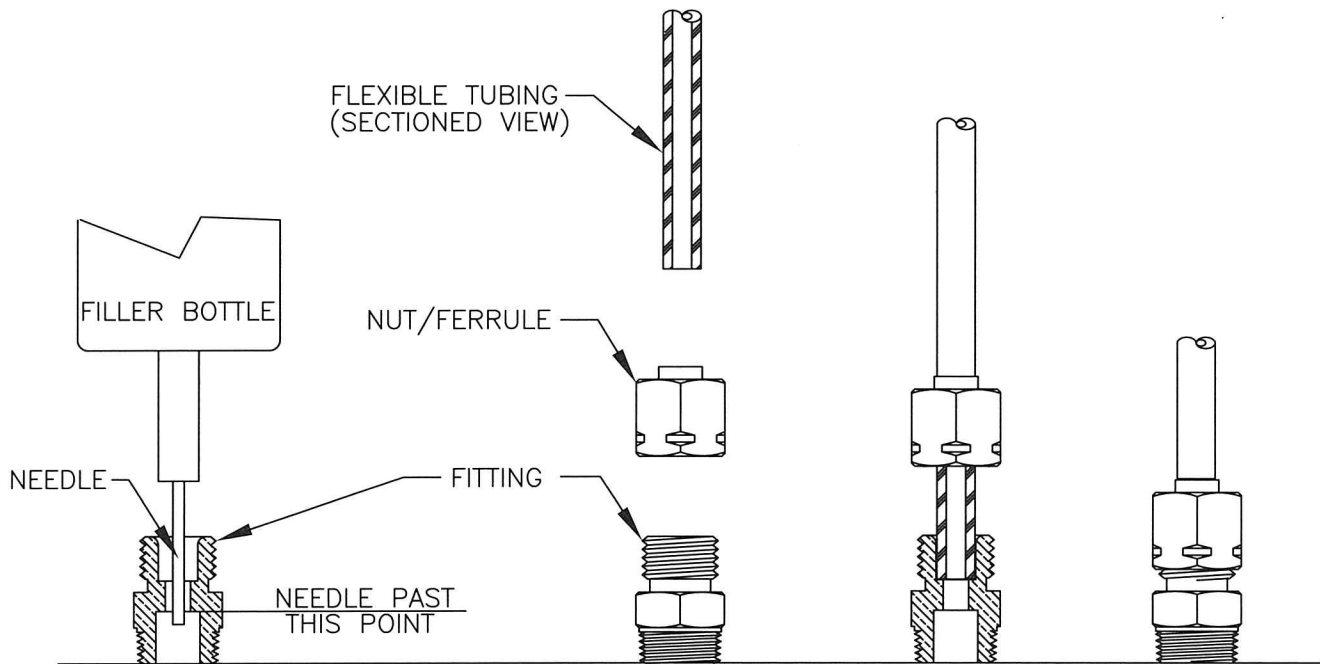

FIGURE 2 – FITTING ASSEMBLY DETAIL
**IMPORTANT NOTE: PUMP FITTING WILL NOT FILL PROPERLY UNLESS FILLER BOTTLE NEEDLE IS INSERTED PAST THE SMALLEST OPENING IN THE FITTING AS SHOWN IN FIGURE 2 ABOVE.**
**IMPORTANT NOTE: CYLINDER FITTING WILL NOT FILL PROPERLY UNLESS FILLER BOTTLE NEEDLE IS INSERTED PAST THE SMALLEST OPENING IN THE FITTING AS SHOWN IN FIGURE 2 ABOVE.**